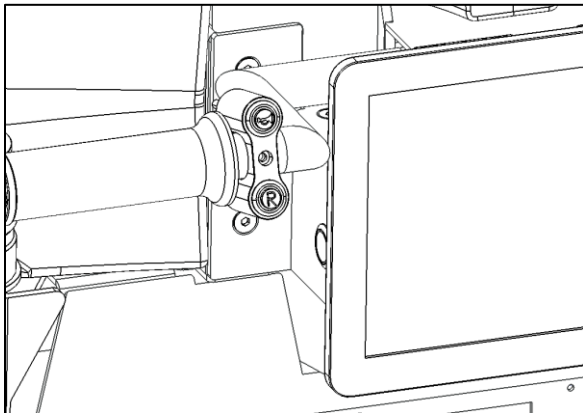

Fig. 2
- Press and **HOLD** the reverse button and twist the throttle to reverse (Fig 2).